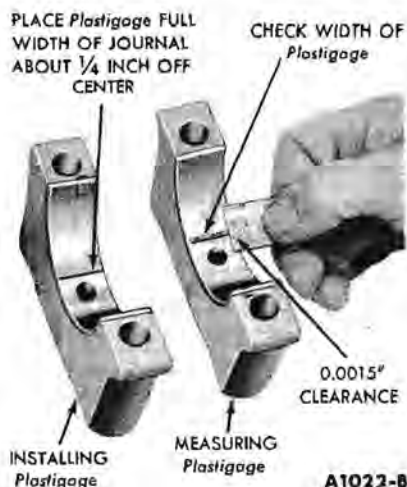

FIG. 36—Installing and Measuring Plastigage—Engine Installed
10. Place a piece of Plastigage on the bearing surface the full width of the bearing cap and about 1/4 inch off center (Fig. 36).